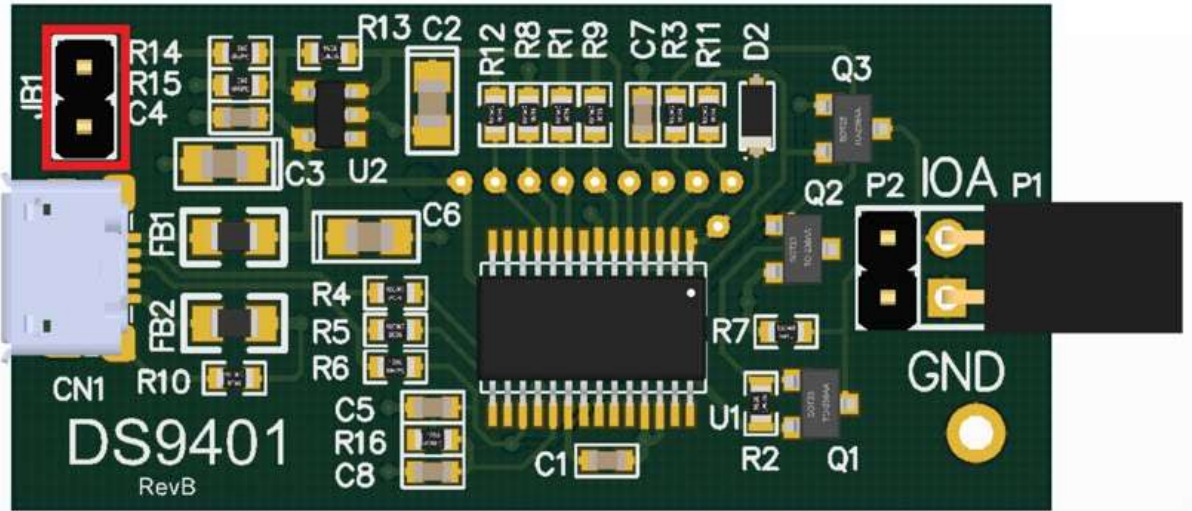

Figure 1. DS9401 board.
1. Set the DS9401 to 3.3V 1-Wire voltage by populating jumper JB1 (see **Figure 1**). The DS9401 emulates the charging box.